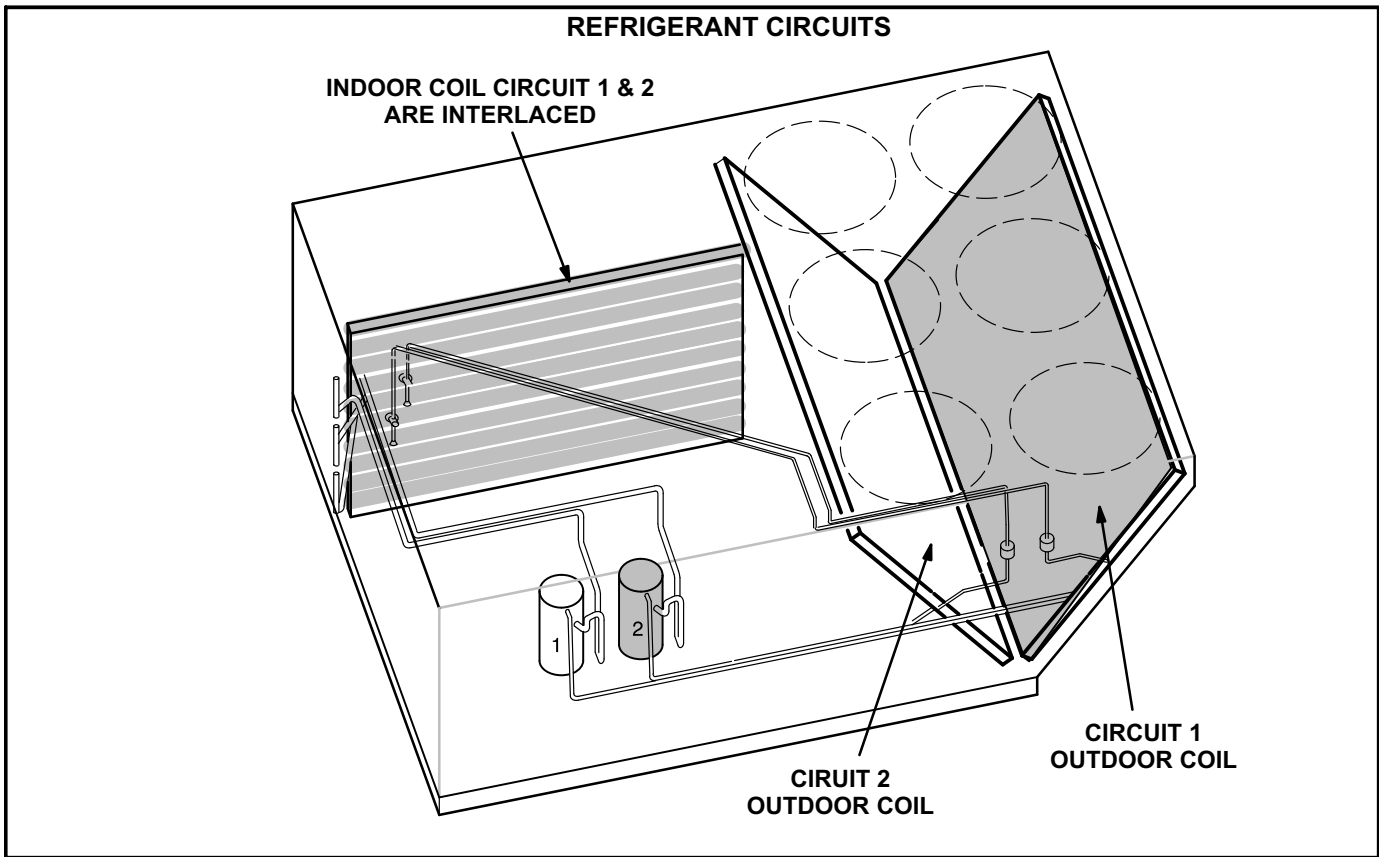

FIGURE 15
- 3- Units contain two refrigerant circuits or systems. See figure 15.